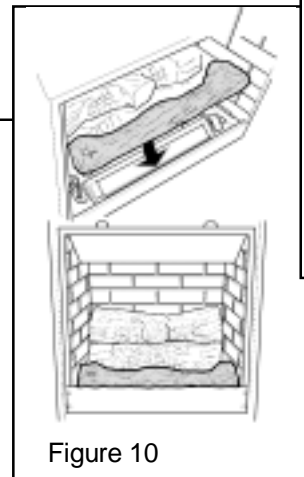

Figure 10
3. Place the front log behind the metal lip at front of the firebox. See figure 10.